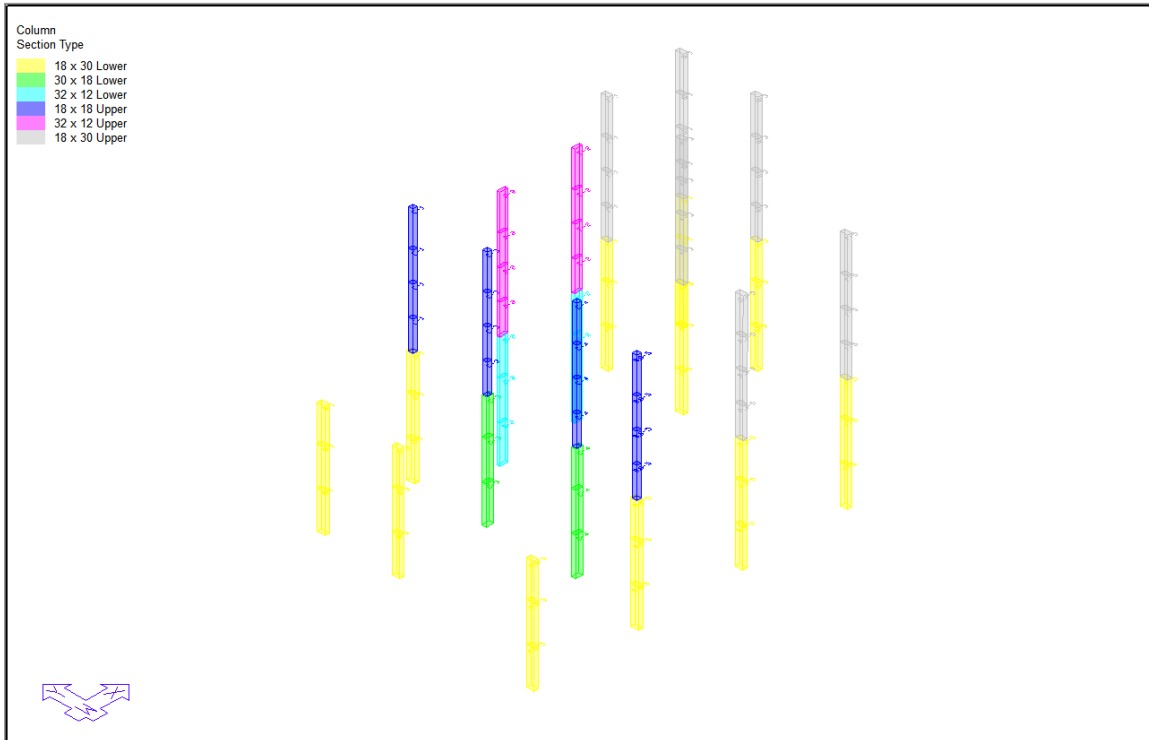

FIGURE 15-11
- Click the check box next to **Section Type** to see the columns colorized by Column Section Types as shown in **FIGURE 15-11**.